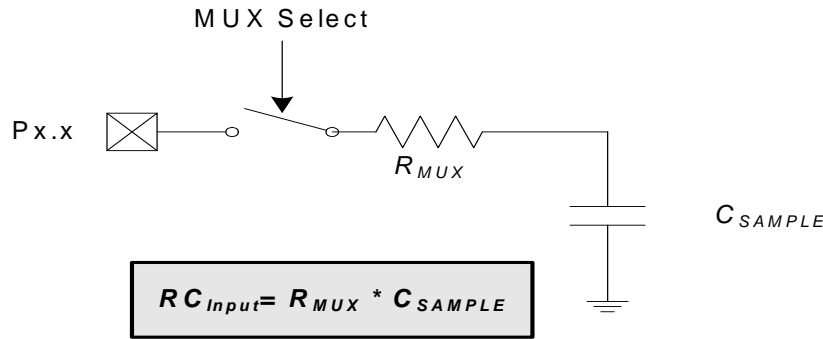

Figure 5.5. ADC0 Equivalent Input Circuit
Figure 5.5 shows the equivalent ADC0 input circuit. The required ADC0 settling time for a given settling accuracy (SA) may be approximated by Equation 5.1. When measuring the Temperature Sensor output, use the settling time specified in Table 4.10. When measuring V_{DD} with respect to GND, R_{TOTAL} reduces to R_{MUX} . See Table 4.9 for ADC0 minimum settling time requirements as well as the mux impedance and sampling capacitor values.